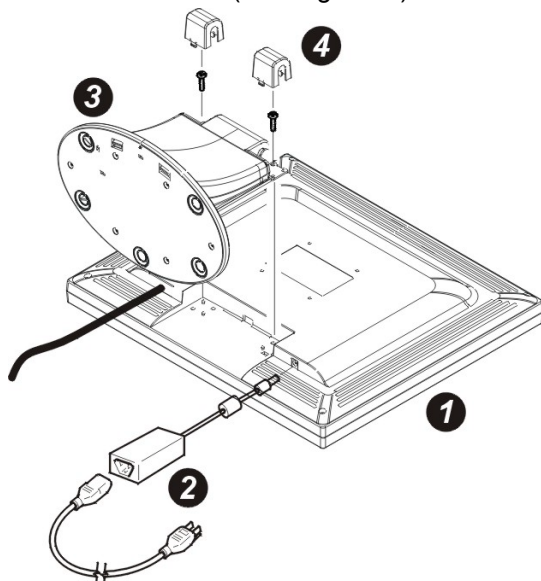

Figure 6: Preparing to Install an Optional Wall-Mounting Arm
- 2 Pull the screw covers off the back of the monitor. See Figure 6.)
- 4 Remove the base. (See Figure 6.)